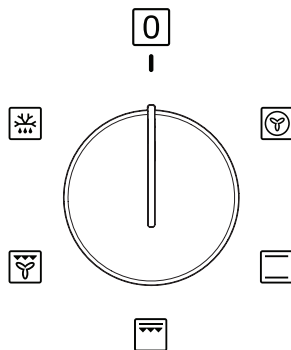

Figure 7: Oven Mode Knob
3. Turn the oven mode knob to the bake position (Figure 7).